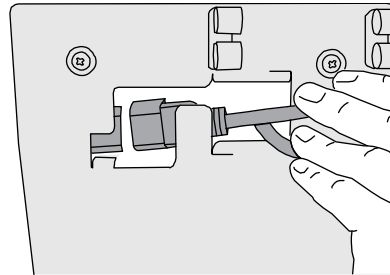

Figure 2 Connect AC power cord.
- 3 Under the base, connect the AC power cord. See Figure 2.